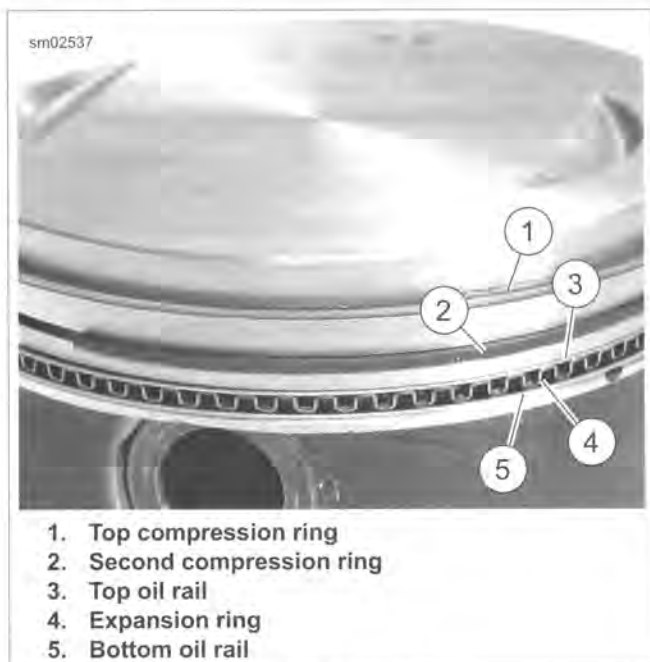

Figure 3-63. Piston Rings
1. See Figure 3-63. Apply clean engine oil to three piston ring grooves.
2. Install expansion ring (4) into third ring groove.
3. Spiral bottom oil rail (5) into space below expansion ring (4). Position gap 90 degrees from the gap in the expansion ring.
4. Spiral top oil rail (3) into space above expansion ring (4). Position gap 180 degrees from the gap in the bottom oil rail.